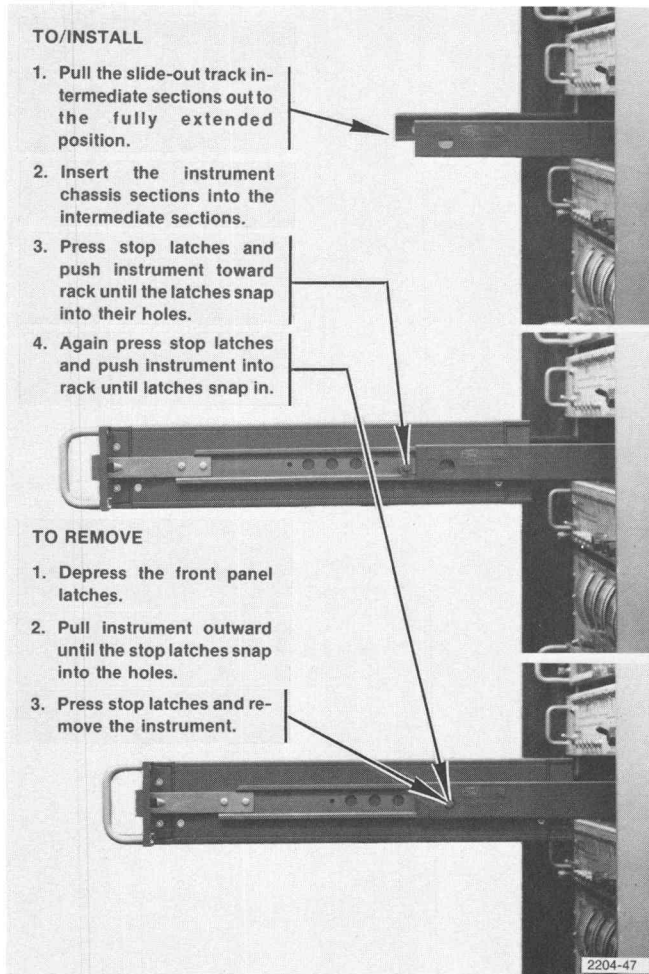

Fig. 5-15. Installing the 143 on the slide-out tracks.
5. Pull the slide sections out until the safety catch engages. Install the 143 on the slide tracks and push in until the latches on the chassis section engage. Depress the latches and push the 143 into the rack (see Fig. 5-15).